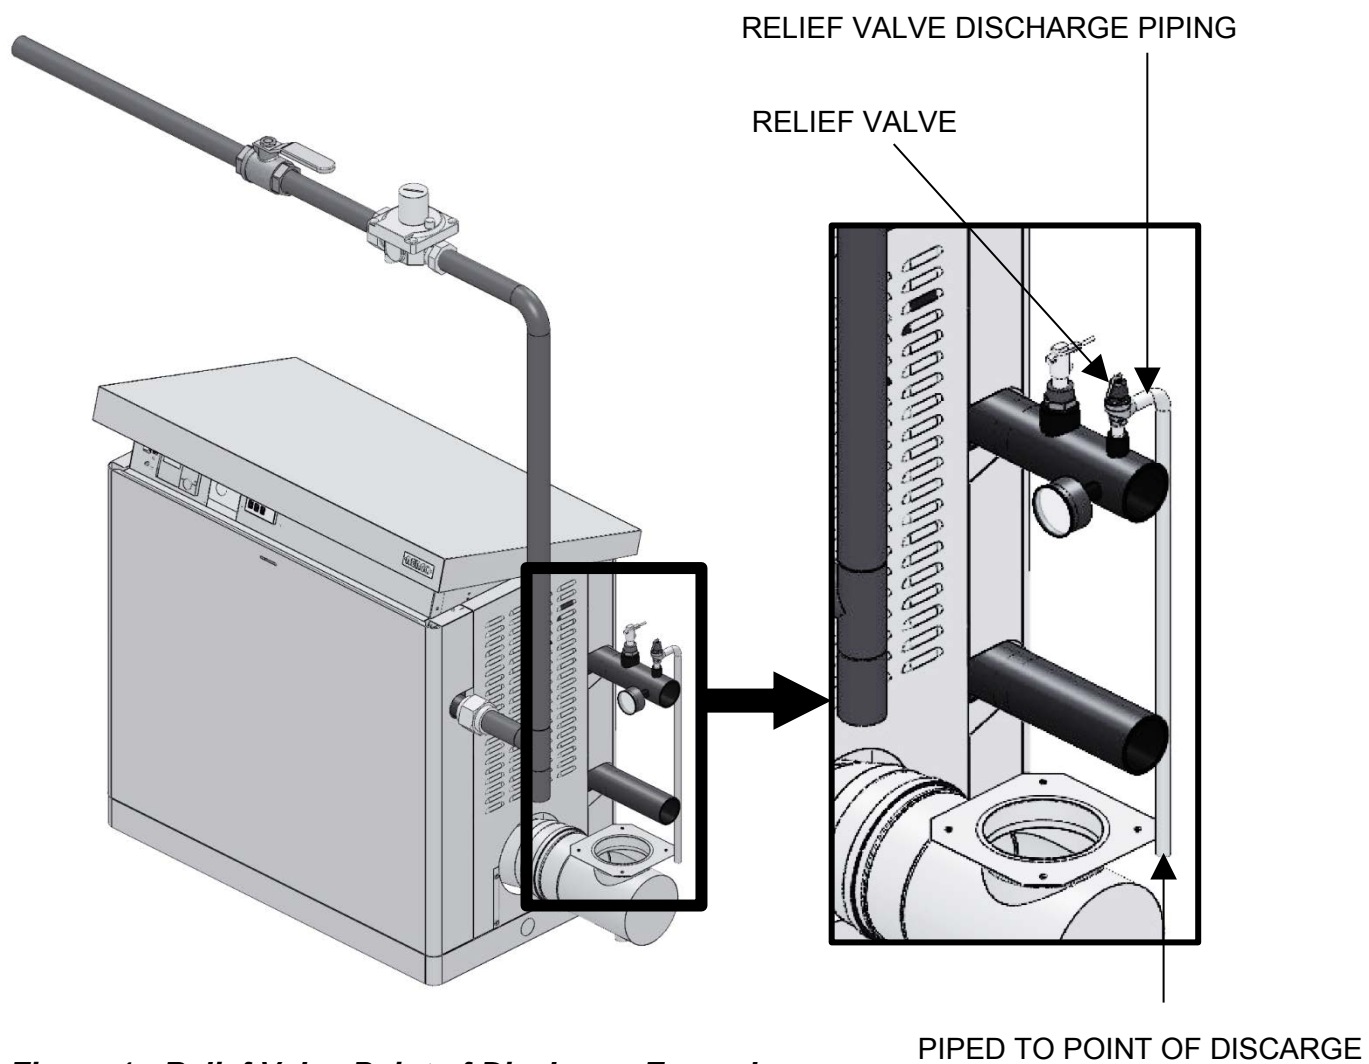

Figure 1: Relief Valve Point of Discharge Example
- The discharge pipe must be installed so that there will be no danger of scalding to the boiler attendants. See Figure 1, below, for a discharge pipe example on the Modulex boiler.